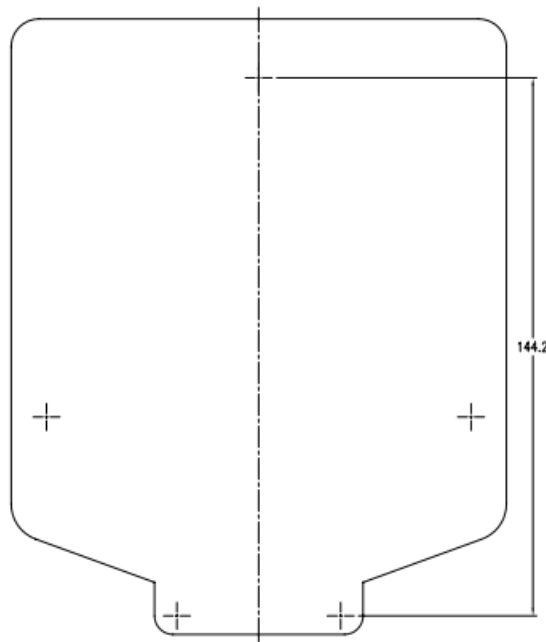

Figure 1: Use Mounting Template (included)
- Use the mounting template (included) to mark the mounting screw location on the wall. See figure 1